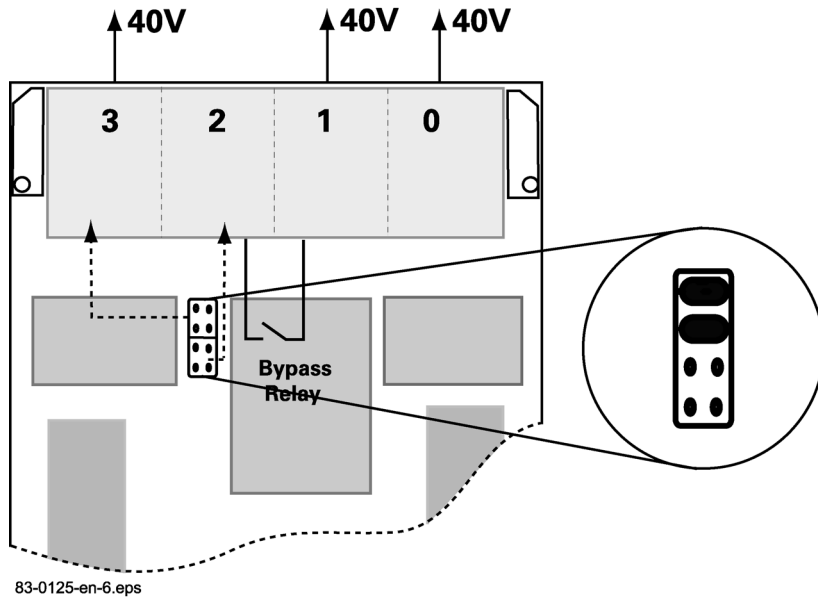

Figure 5-7: Upper Four Jumper Pins Bridged
- Upper four jumper pins bridged: this setting is used with Port 2 configured as Fallback and connected to a NT as shown in Figure 5-7.